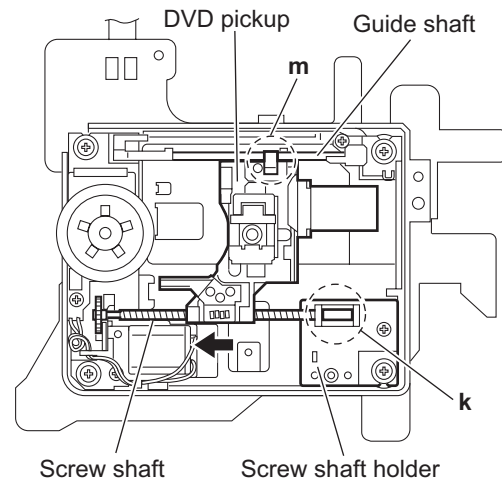

Fig.13
- (5) Move the DVD pickup in the direction of the arrow and remove the screw shaft from the section **k** on the screw shaft holder. (See Fig.13.)
- (6) Remove the section **m** of the DVD pickup from the guide shaft. (See Fig.13.)
- (2) Attach the section **m** of the DVD pickup to the guide shaft first and attach the screw shaft to the section **k** on the screw shaft holder. (See Fig.13.)